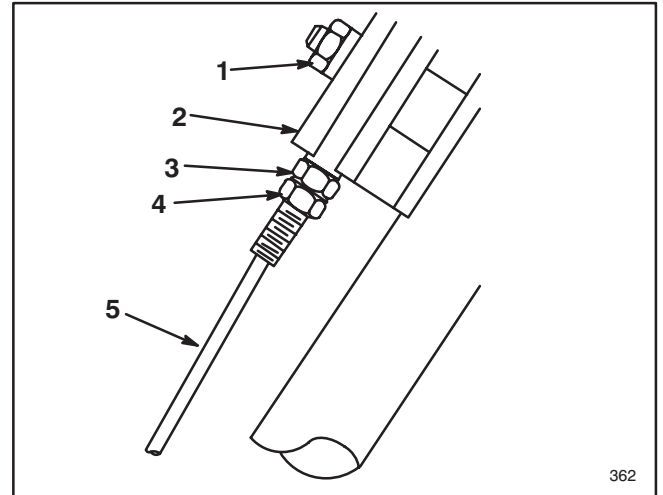

Figure 20
- Loosen nut on support block (Fig. 20).
- Loosen bottom jam nut on wheel traction cable (Fig. 20).
- Top jam nut should be against support block when adjustment is complete (Fig. 20).